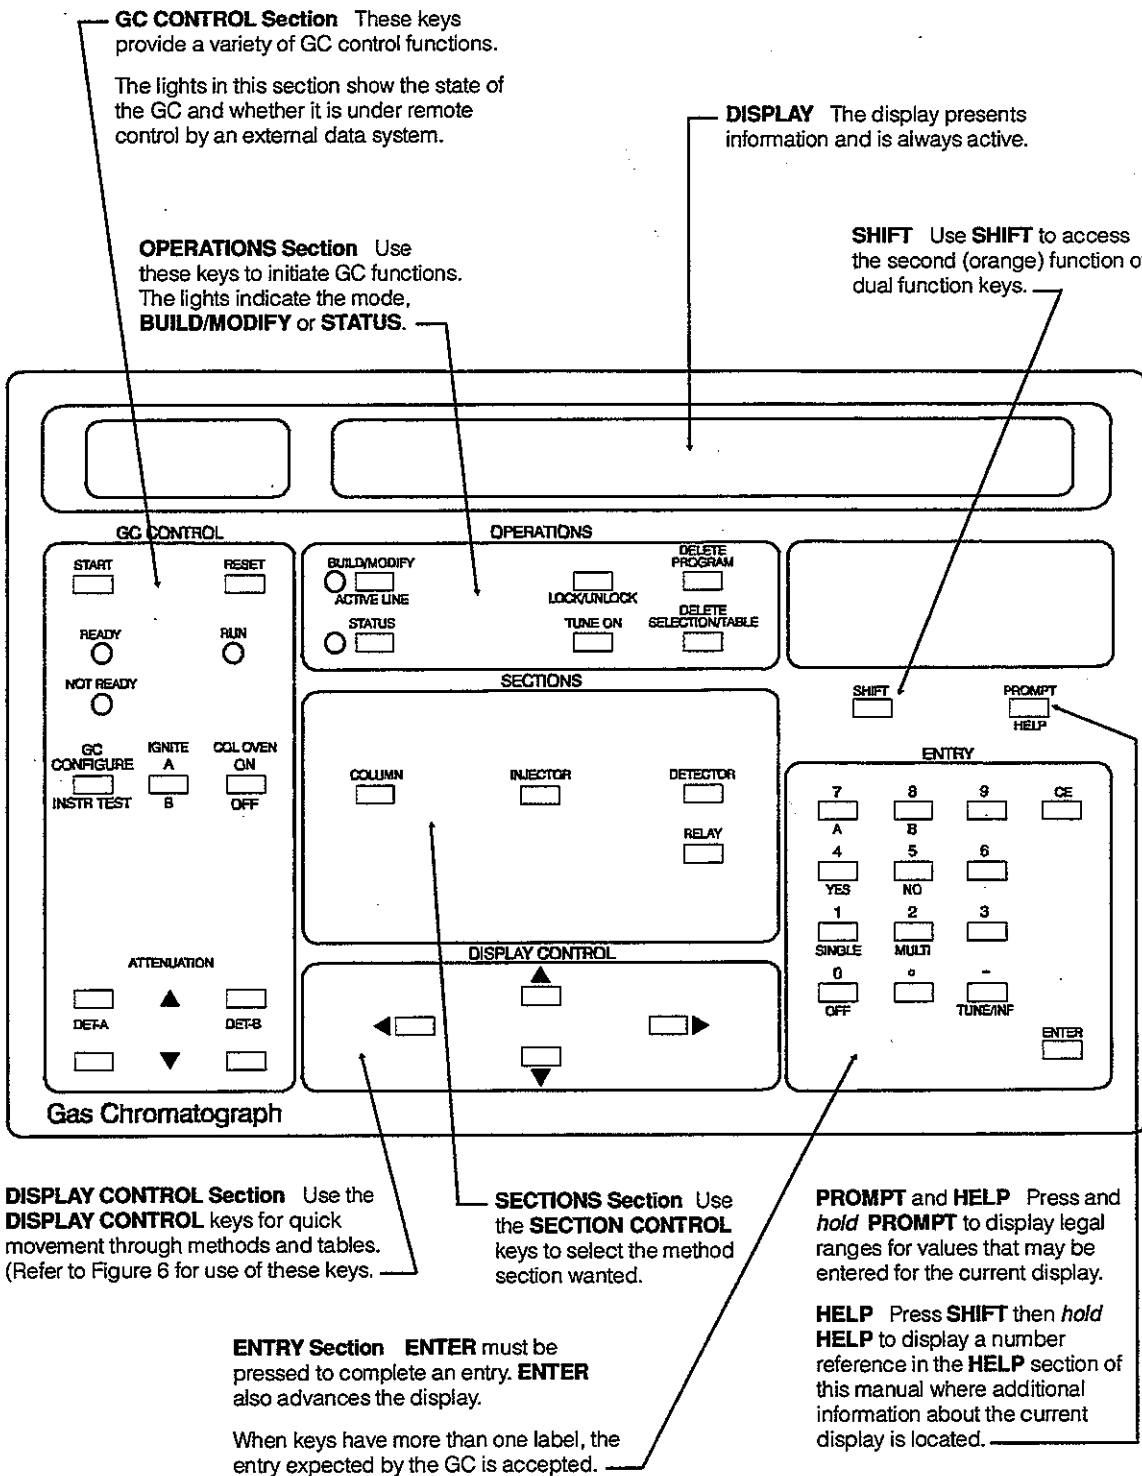

Figure 1 3300 GC Keypad
The 3300 Gas Chromatograph (GC) and the Star 3400 CX GC are controlled through the keypad and single-line display on the front panel of the GC. The basic functions of each key are described in Figure 1 through Figure 9. In general, the keypad consists of six sections: